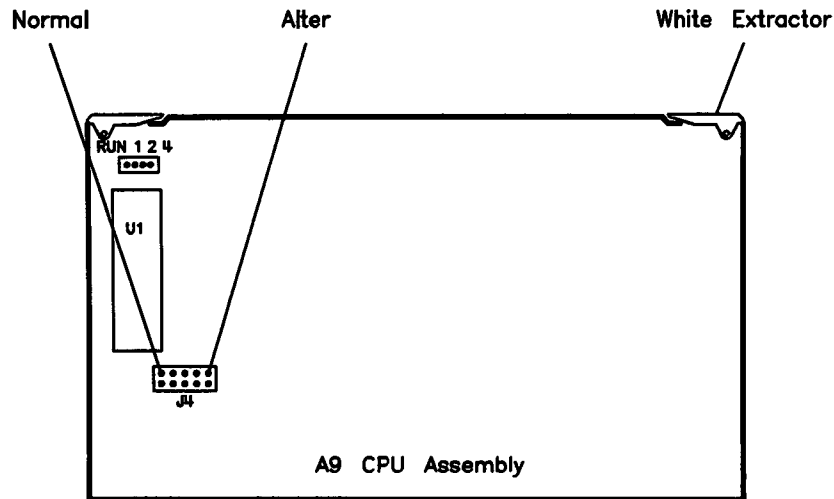

Figure 5–1. A9 CC Jumper Location
2. The location of the assemblies in the upper portion of the instrument is shown on a label on the under side of the top cover. Remove the A9 CPU assembly and move the A9 CC jumper to the ALTER position (see Figure 5–1).